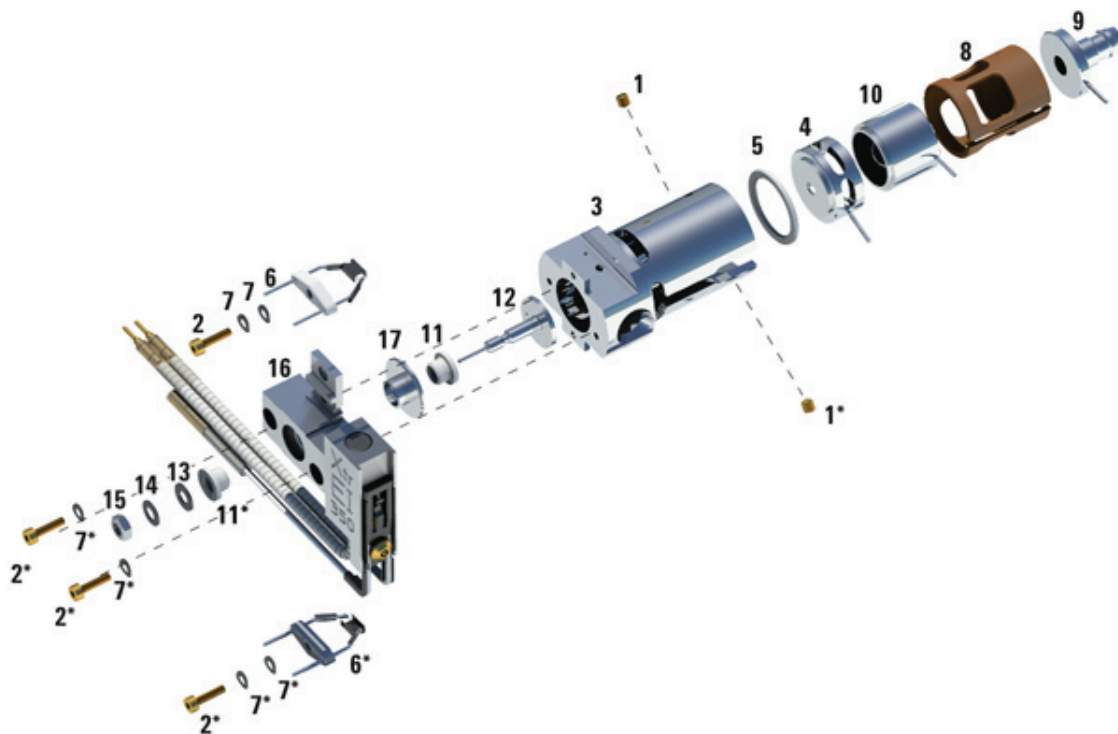

Figure 63. Assembling the EI HydroInert source
Refer to the exploded parts view **Figure 63** and EI HydroInert parts list **Table 25** on page 195 while using this procedure.
- 3 Insert the entrance lens and ion focus lens into the insulator in the order shown in **Figure 63** on page 195.
Table 25 Parts list for EI HydroInert source (Figure 63)
**Table 25** Parts list for EI HydroInert source (Figure 63) (continued)